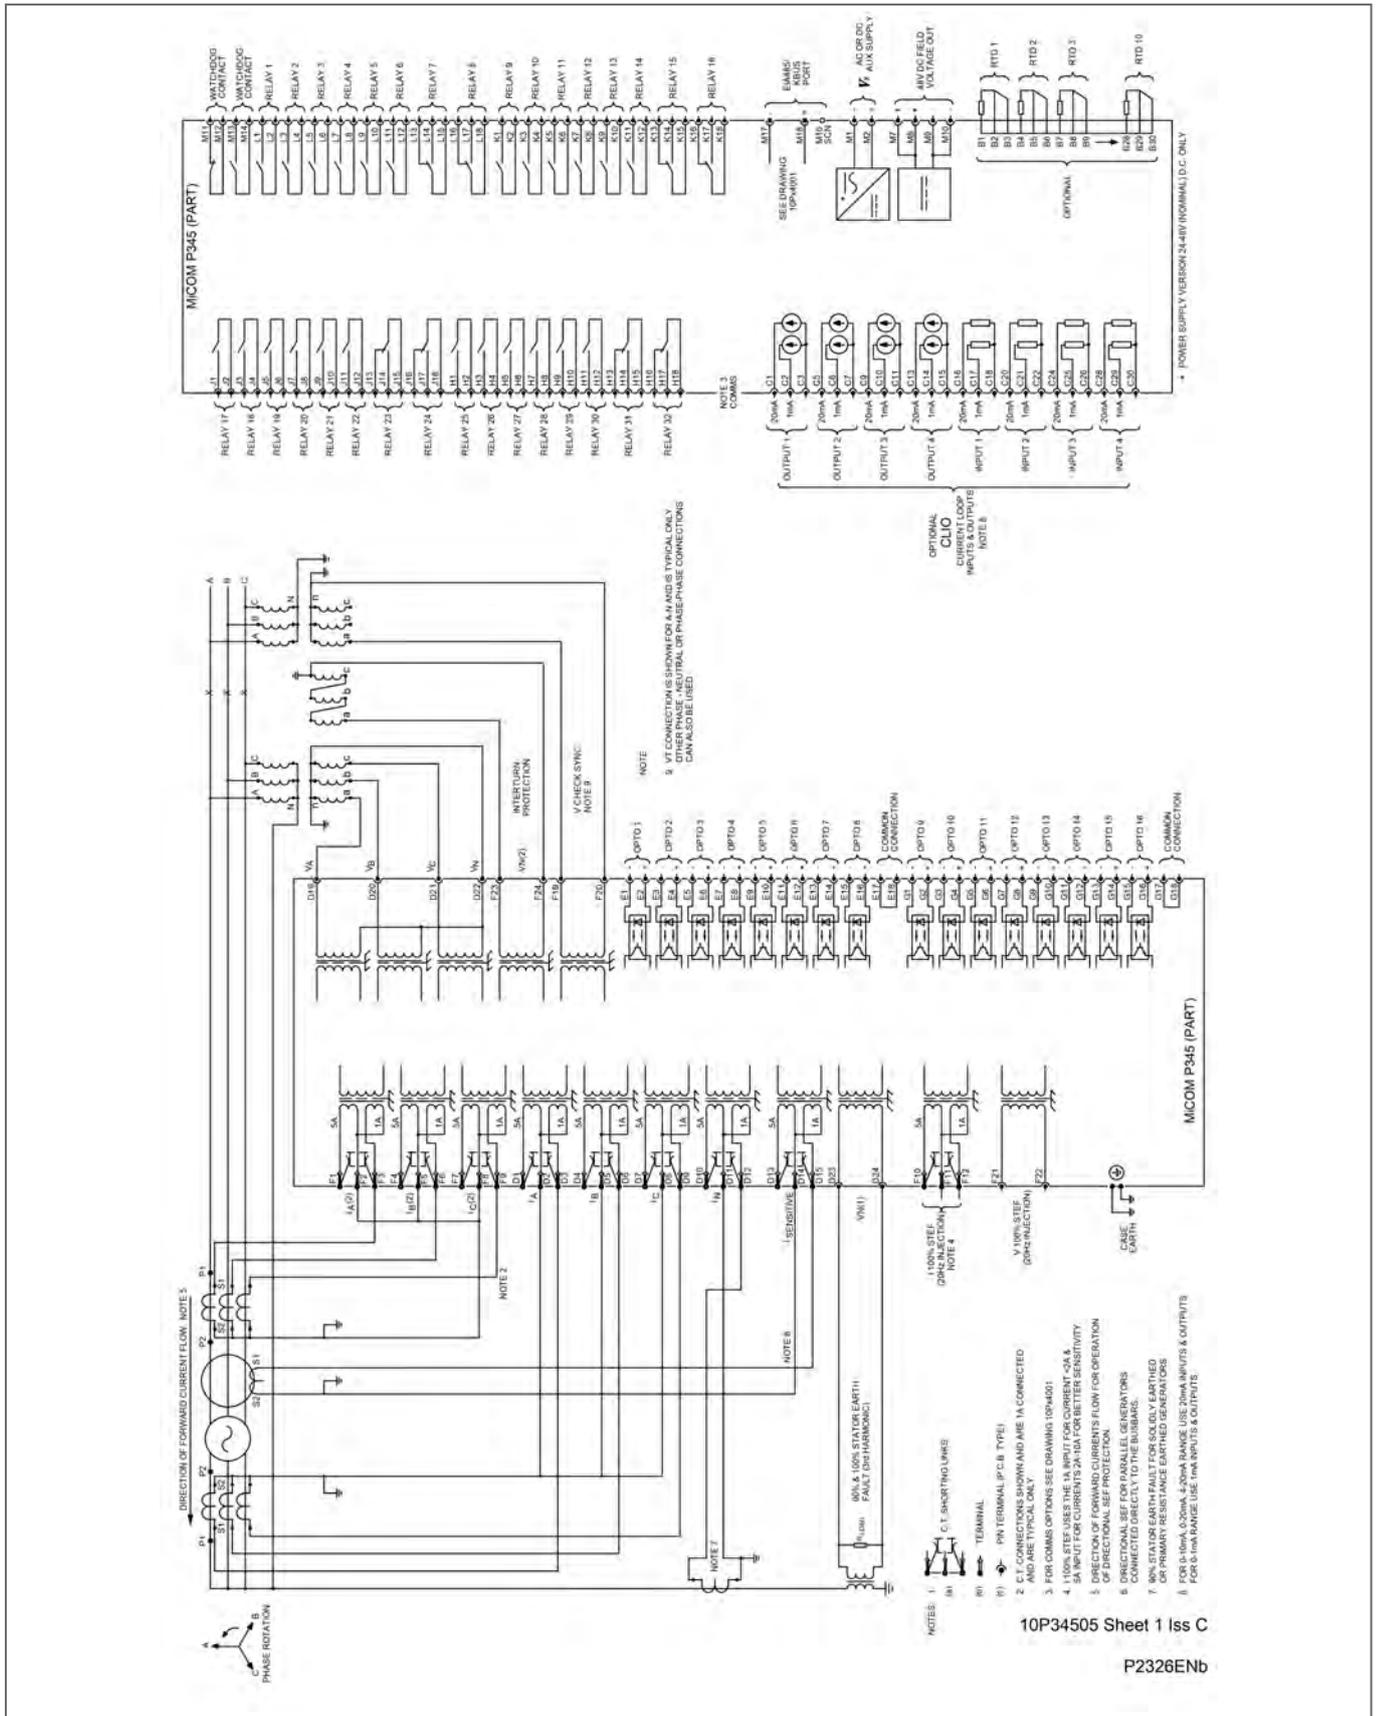

Figure 89 - P345 (80TE) with 90% & 100% (3rd Harmonic) stator earth fault & interturn protection (16 I/P & 32 O/P & CLIO & RTD)
- Figure 89 - P345 (80TE) with 90% & 100% (3rd Harmonic) stator earth fault & interturn protection (16 I/P & 32 O/P & CLIO & RTD)